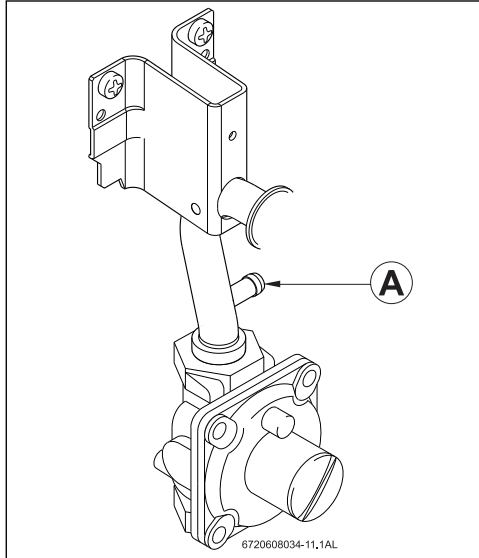

Fig. 13 Gas pressure measuring point
- ▶ Remove front cover and locate inlet gas pressure measuring point on the right side, see Fig. 13.